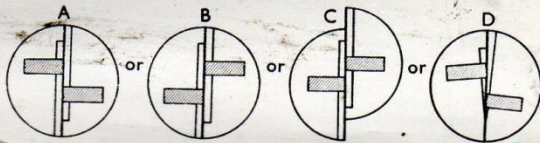

Fig. 3 Target off Level
4. Look down into the aperture at the top of the instrument (Fig. 2) and swivel the instrument until the target can be seen through it split into two halves (Fig. 3). The field of view may appear as a whole circle, as at A, B, or D, or it may be split, as at C—ignore this. The Target may appear horizontal as at A, B, C, or tilted as at D—ignore this also.